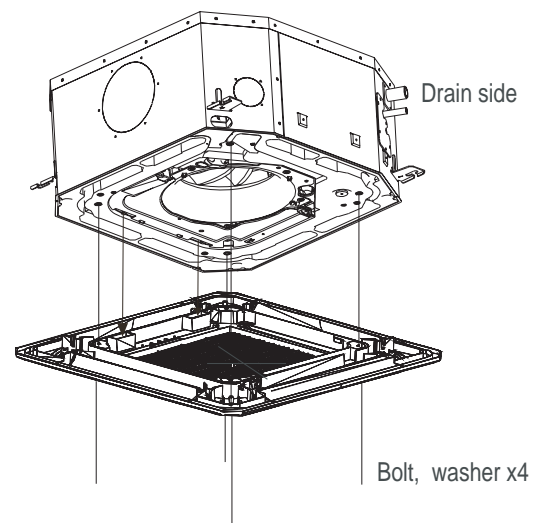

Fig.23
1. Align the swing motor on the panel to the tubing joints of the body properly. (Fig.23)
2. Hang the four fixed rope of the main body to the installation cover and the other three covers of the swing motor. (Fig.23)